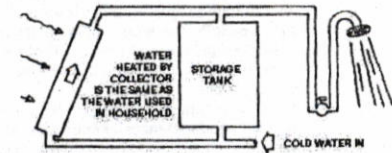
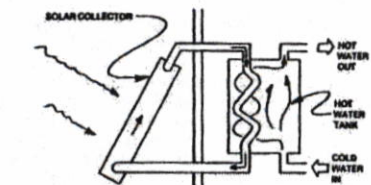

Fig. 3: An open system
Fig. 4: A closed system
**Rob:** And—on active systems, a controller turns a pump on and off as solar heat is available. Let's define a few terms used to describe these systems—active vs passive, open vs closed. An active system is one that uses pumps to move the heat about. A passive system is one that contains no pumps, relying instead on natural convection, conduction, or radiation to move heat. An open system means the water circulating through the collector is the same water you'll use in a shower (Fig. 3). A closed system circulates the separate heated fluid from the collector through a small loop that includes a heat exchanger, usually located in the storage tank (Fig. 4).